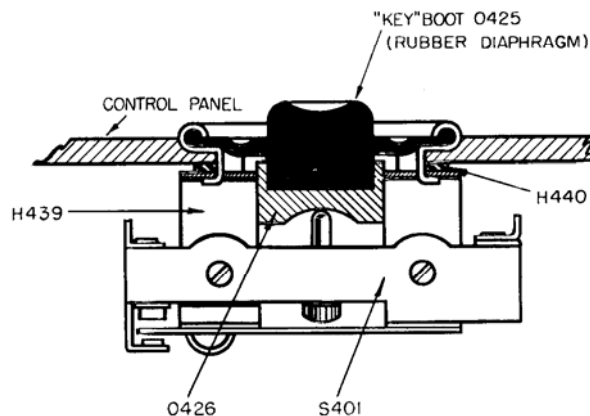

Figure 6-12. Cross Section of KEY "Boot" Assembly
- Step 1. Remove the unit from the carrying case as indicated in paragraph 1.b.(2) of section 5.
- Step 3. Unscrew the two bolts holding the switch S401 to its bracket H439. See figure 6-20. This will reveal the boot assembly flange which is swaged over the edges of the switch bracket, as indicated in the cross-sectional view, figure 6-12.
- Step 7. Place the new boot assembly (0425), the rubber washer (H440), and switch bracket (H439) in position as shown in figure 6-12. Be sure that all mating surfaces are free from dirt or foreign matter.